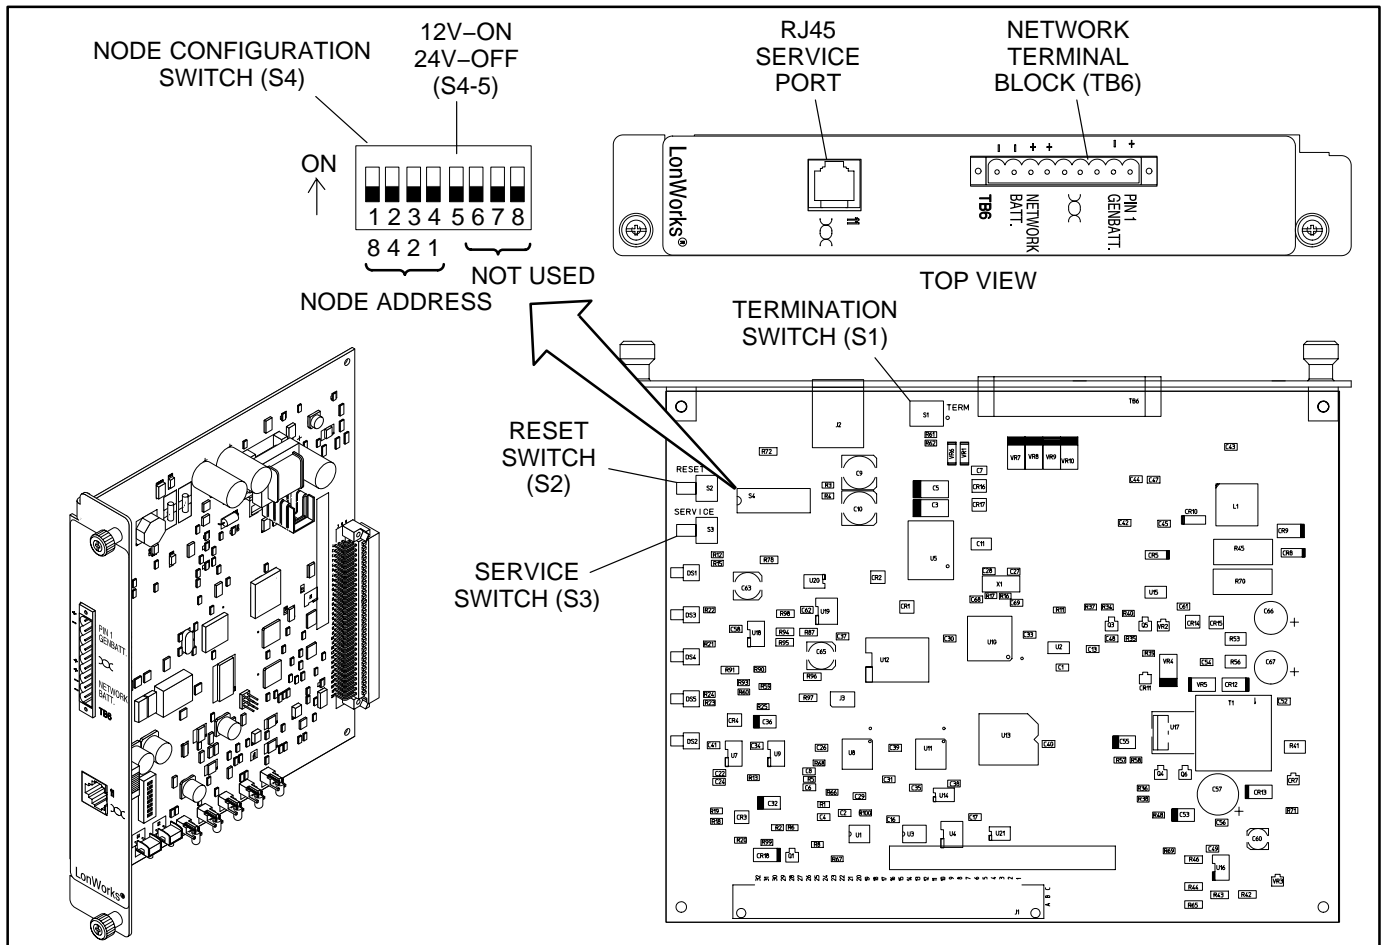

FIGURE 1. NETWORK COMMUNICATIONS MODULE
The GLC (Genset LONWORKS Card) is required for connection of a PowerCommand® (PCC 3200) Genset to a LONWORKS® FT-10 network. The GLC (Figure 1) provides an interface for data from the PCC 3200 control to other modules within the network. It communicates with the PCC 3200 control via the backplane of the card cage assembly.
1. If the device is terminated, the termination switch (S1) must be set to the **ON** position. See Figure 1 for the location of the Termination switch.
2. Set **S4-5** to the **ON** position for a 12V-battery system or to **OFF** for a 24V-battery system (Figure 1). (The GLC will automatically wake the genset controller if the battery is below the respective threshold.)
3. Each node on a self-installed network must have a unique address. Switches 1 through 4 of the Node Configuration Switch (S4) are used to set the *Node Address*. See Figure 1 for the location of the Node Configuration switch.